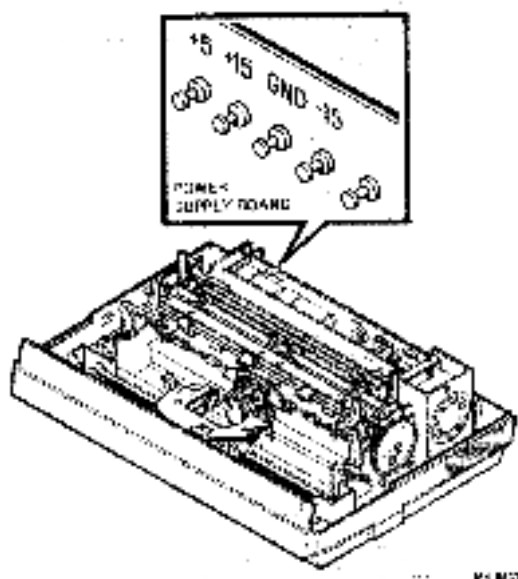

Figure 1-6 Power Supply PCB Voltage Test Points
4. Power up the printer. Using a digital multimeter, check the $+5$ Vdc, $+15$ Vdc, and -15 Vdc power supply outputs at the designated test points on the power supply PCB (Figure 1-6).